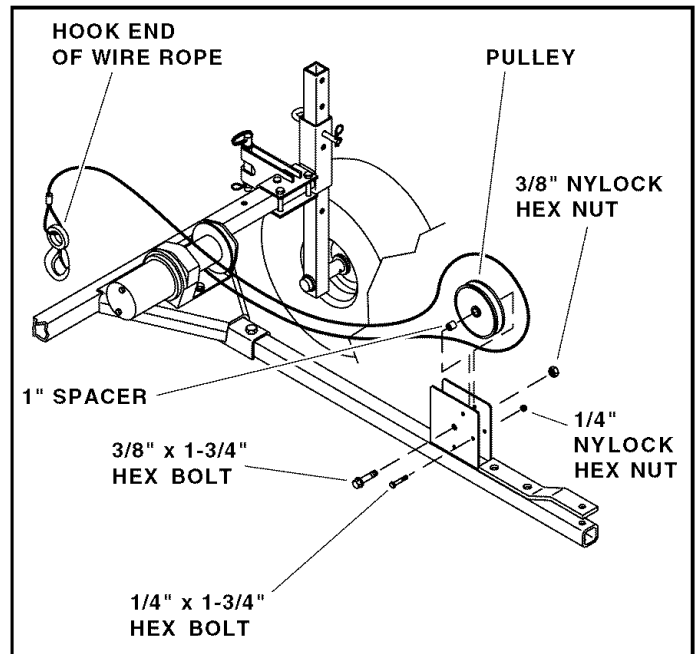

FIGURE 6
8. Install three 1/4" x 1-3/4" hex bolts and 1/4" Nylock hex nuts through the pulley bracket welded to the drawbar. Tighten the nuts, but leave them loose enough that the bolts can still spin. See figure 6.
9. Set the winch drum to "freewheel" according to the instructions in the winch manual. Pull enough wire rope from the drum to extend the hooked end of the rope past the hitch end of the drawbar. See figure 6.
10. Install a 1" spacer in the hub of the pulley. Loop the wire rope under and around the pulley and then install the pulley in the bracket using a 3/8" x 1-3/4" hex bolt and a 3/8" Nylock hex nut. **Tighten.** See figure 6.